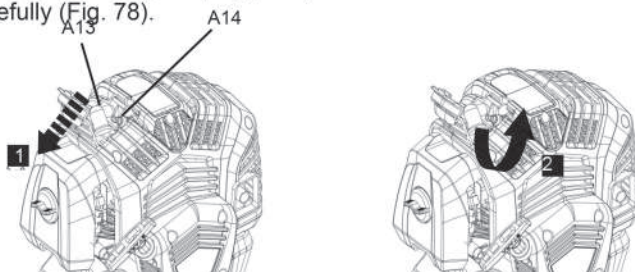

Fig. 78
2. Loosen the spark plug (A14) anticlockwise and remove it carefully (Fig. 78).